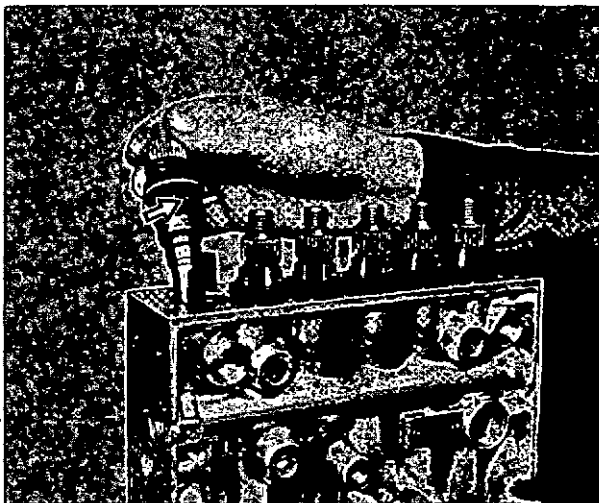
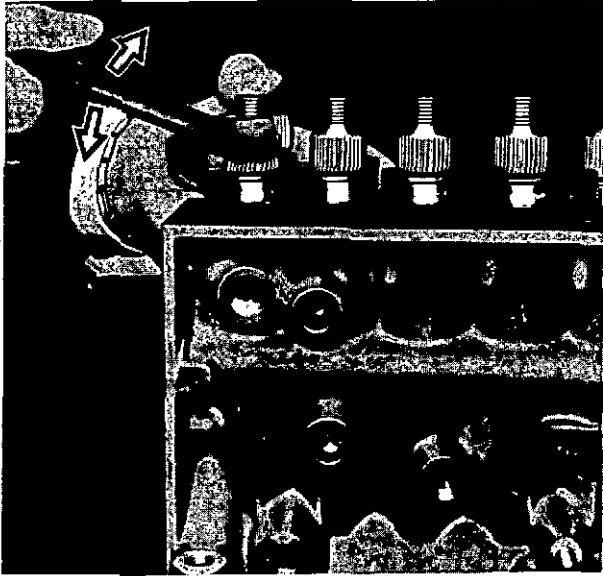

Fig. 31 Inserting barrel delivery valve assembly
Fig. 32 Easing assembly into place
5. Insert the barrel/delivery valve assemblies, each with the drilling for the flange bushing peg (arrowed, fig. 31) towards the pump rack. Ease the units into place by gentle downward pressure and rocking, using ring spanner 1 687 950 525 (fig. 32). Fit the plain washers, spring washers and nuts, finger-tight; position each assembly with its securing studs at mid-point of the adjusting slots and tighten the nuts evenly to between 29 and 32 lbf.ft. (39 and 44 Nm).